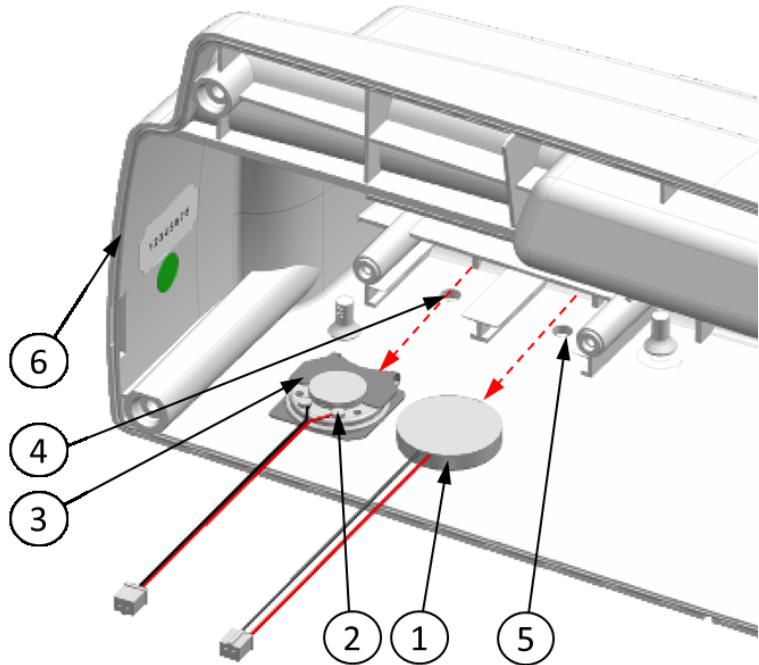

Fig. 74 Buzzer and Speaker removal/installation
2. Pull out the **Buzzer (1)** and **Speaker (2)** using the **TA-45** in the direction indicated by red arrow in Fig. 74 following the below guidelines:
1. Attach the **Mounting plate** (3) to the **Speaker** (2), then use the **TA-45** to push the **Speaker** (1) into the end of the socket (4) in the **Back case set** as shown in **Fig. 74**.
2. Using the **TA-45**, push **Buzzer** (1) and **Speaker** (2) into the end of the socket (5) in the **Back case set** opposite to the direction indicated by the red arrow in **Fig. 74** and following the below guidelines: